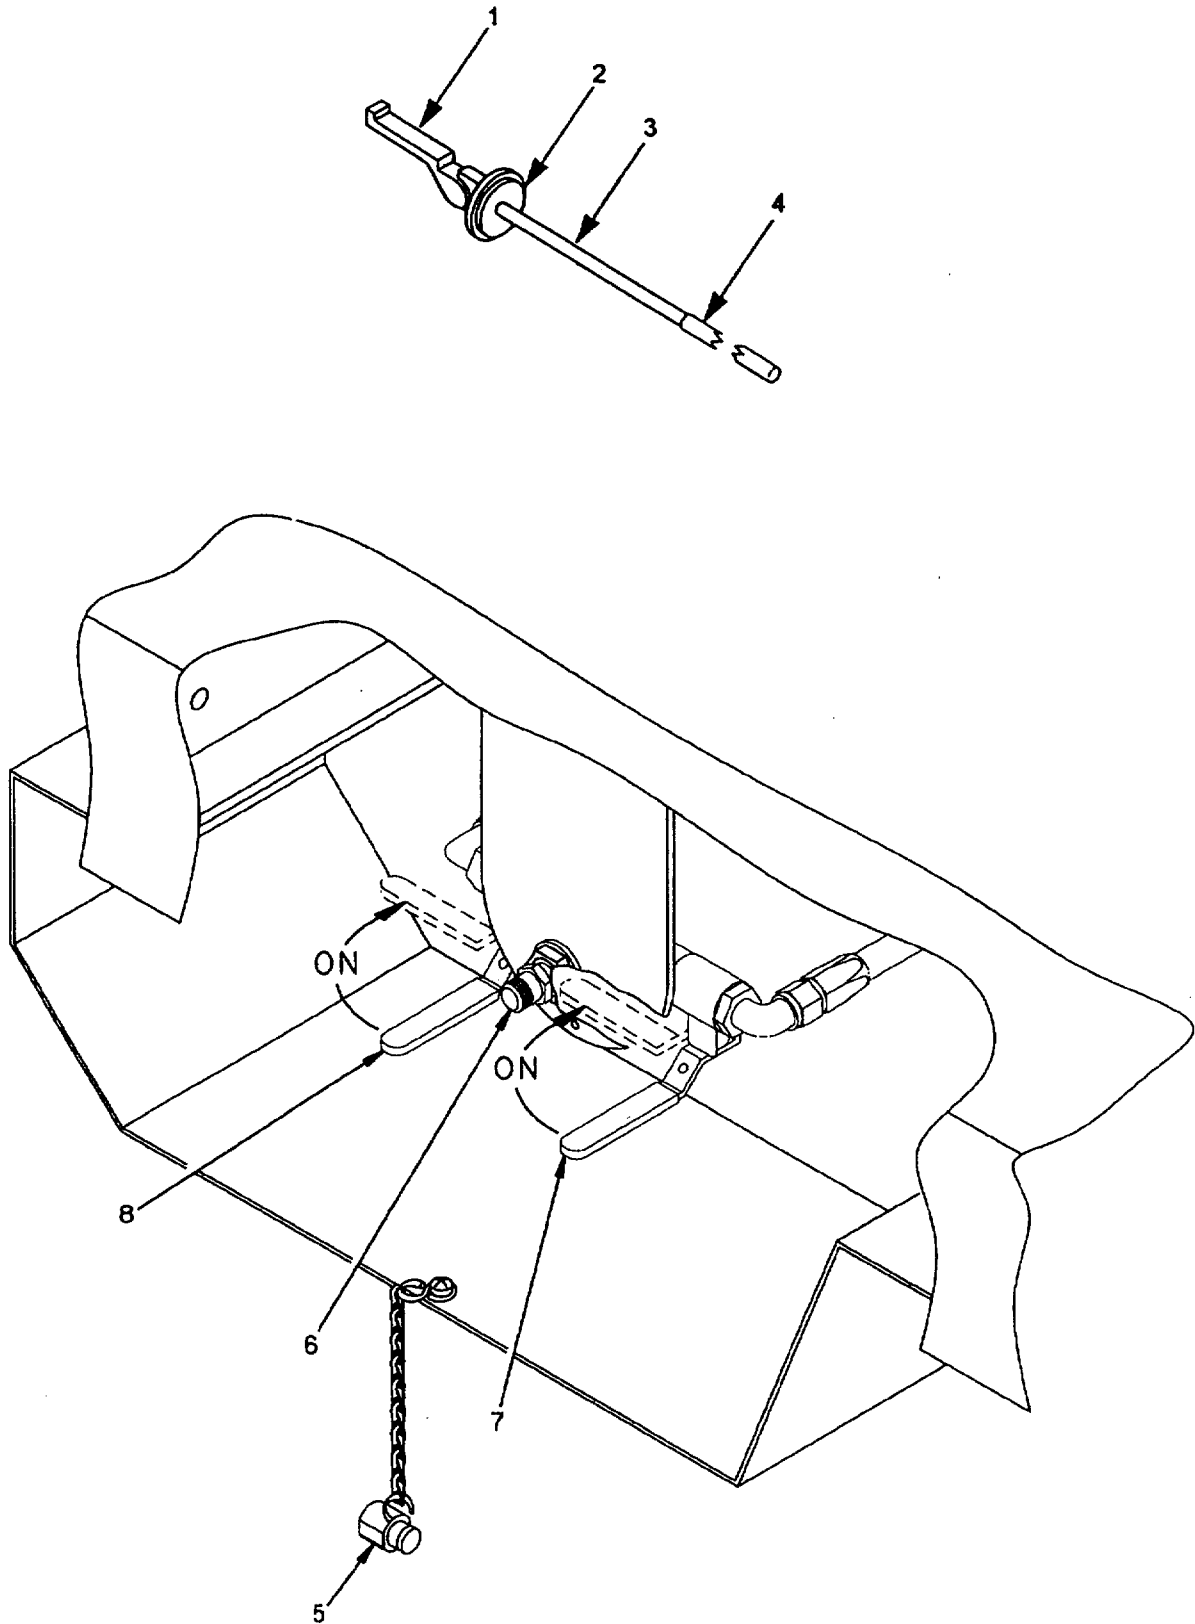

Figure 2-7. Auxiliary Fuel Connection.
Before connecting fuel hose to power plant auxiliary fuel fill connection, ensure both valves are in the OFF position, refer to figure 2-7.
- b. Remove fuel container adapter (figure 2-7) from accessory box. The fuel container adapter consists of strainer clamp (1), adapter (2), pipe (3), and extension pipe (4).
- c. Thread fuel pipe (3) into adapter (2). Thread extension pipe (4) into fuel pipe (3).
- g. Remove protective cap (5) from power plant auxiliary fuel fill connection (6).
- h. Connect free end of fuel hose to fuel fill connector (6) and tighten.
- i. Insert fuel container adapter into external fuel source. Secure fuel container adapter by pressing down on strainer clamp (1).
- j. Turn fuel valve (7) ON to supply fuel to generator set 1 and fuel valve (8) to supply fuel to generator set 2.